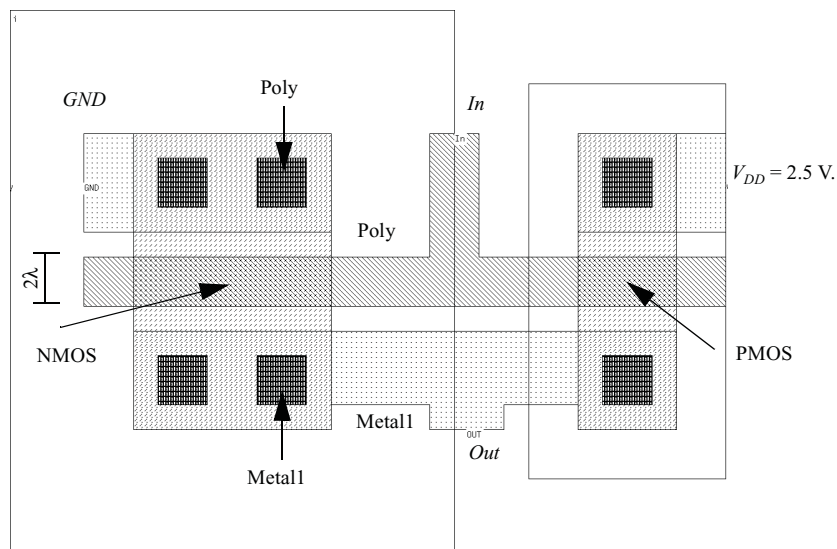

Figure 5.1 CMOS inverter layout.
1. [M, SPICE, 3.3.2] The layout of a static CMOS inverter is given in Figure 5.1. ($\lambda = 0.125 \mu\text{m}$).